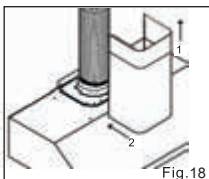

Fig. 18
- Slide the inner duct cover up 2 inches before sliding the entire duct cover on the hood. (Fig. 18)